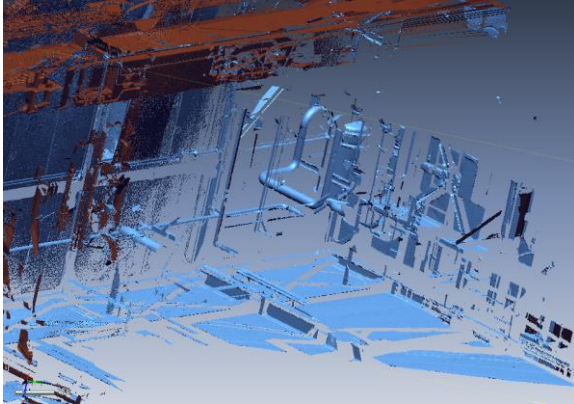

Figure 1 – Raw Scanned Data
- Scan Data is registered, merged, and aligned in Rapidform XOR. (Figure 1)